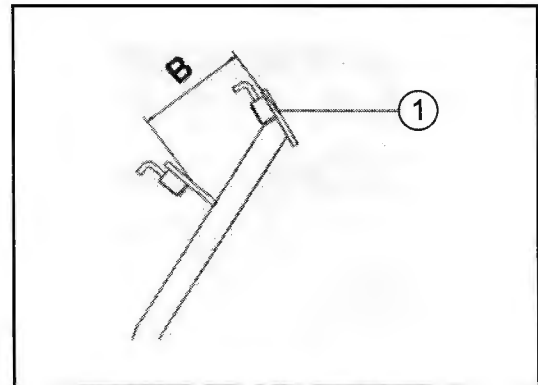

Fig. 27-3 - Brake Pedal Adjustment
Check that distance (B), the amount of brake pedal play, measures between $1\ 9/16"$ to $2"$ to prevent abrasion in the brake system. If not, adjust the control until you reach the correct measurement as shown. (See Fig. 27-3).